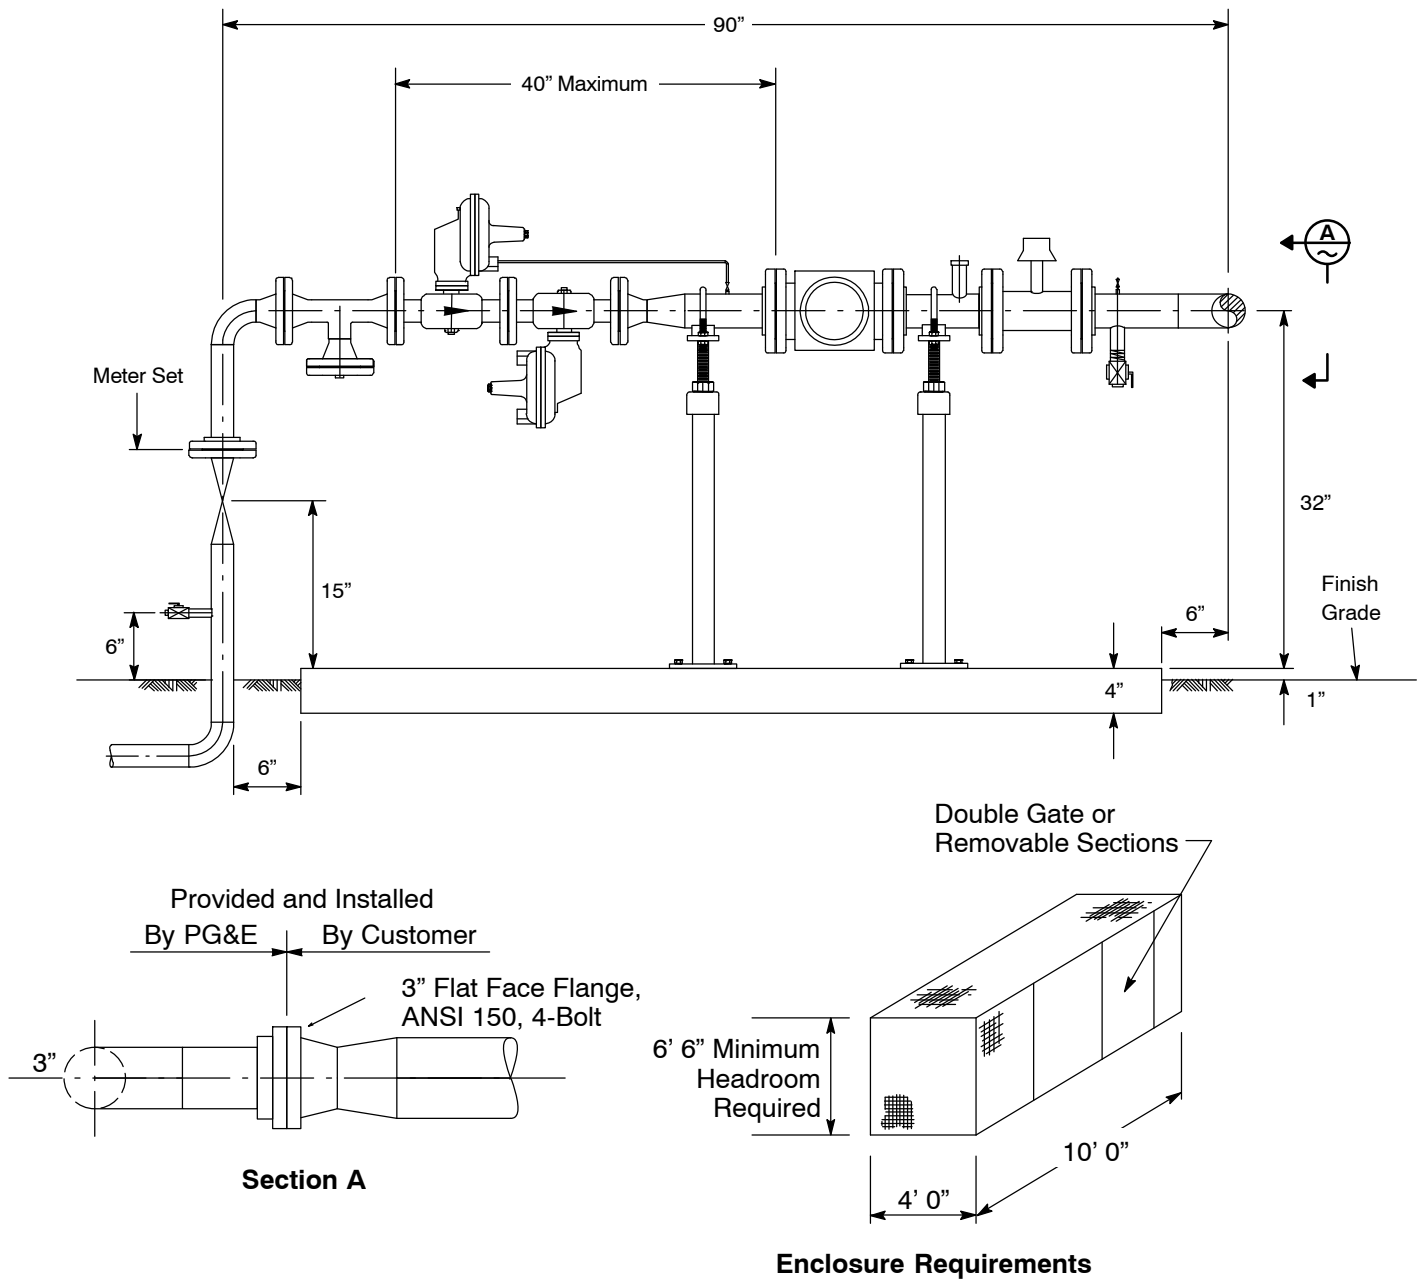

Figure 2-17
6. Figure 2-17 represents a rotary gas meter with 3,001 through 7,000 scfh at an approved delivery pressure.
Notes in reference to Figure 2-17.